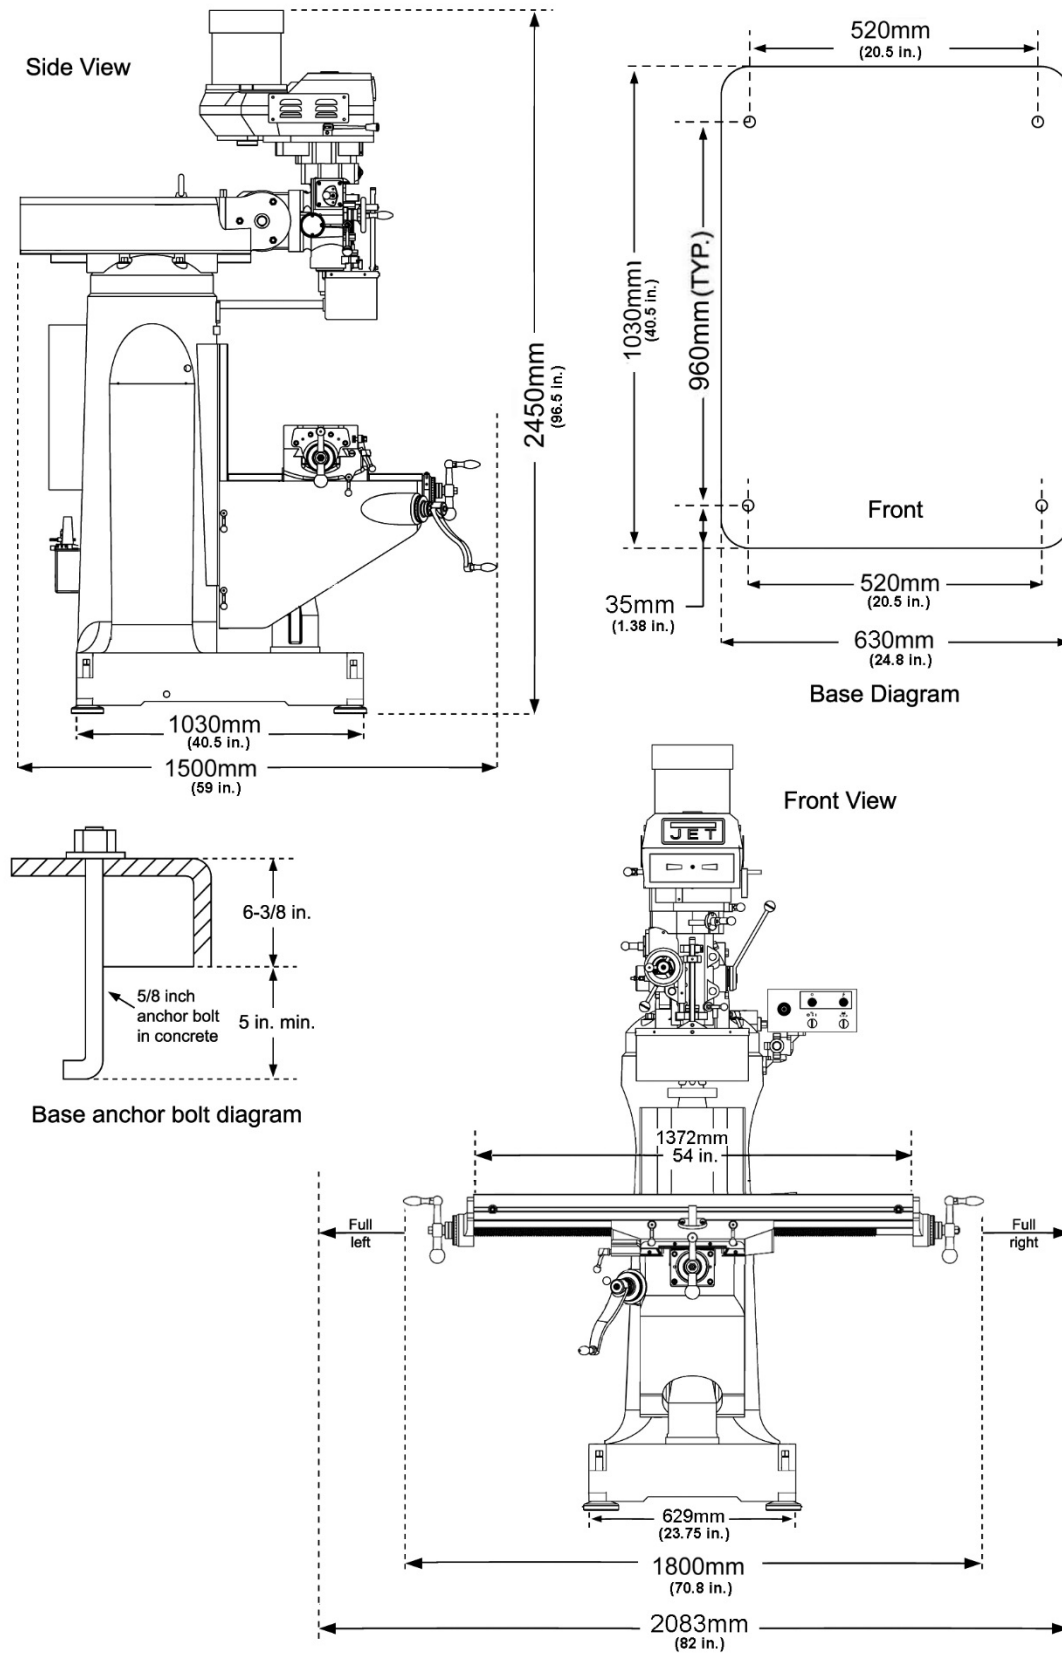

Figure 4-1: Installation Diagram
8. Put machine base over hold-down system where machine will be spotted. Anchor bolts (not provided) of sufficient size and length must be fastened to the floor according to footprint of mill. See Figure 4-1.
Note: Figure 4-1 shows maximum dimensions of machines with table, ram, etc., fully extended in all possible directions. When spotting machine, be certain to leave room not only for the machine itself, but also for operator clearance, servicing the machine, and any unusual sizes of workpieces that might extend off the machine's table.